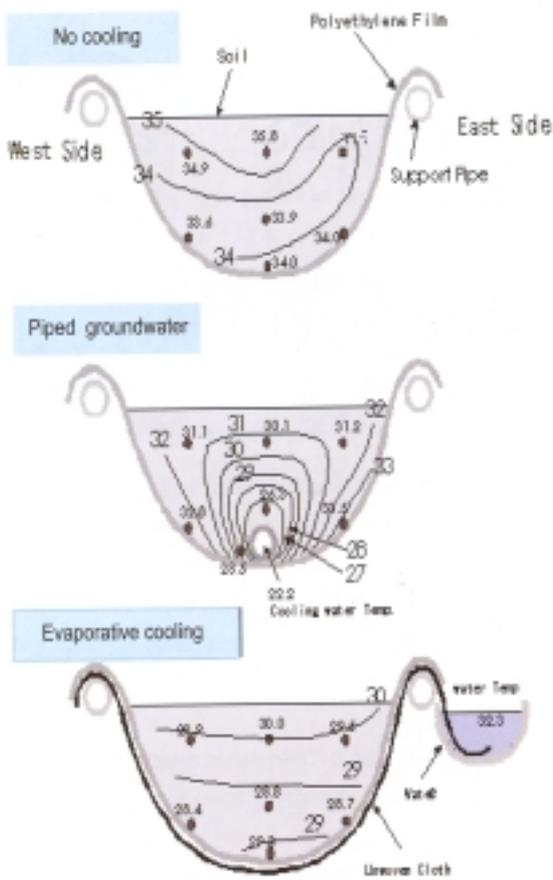
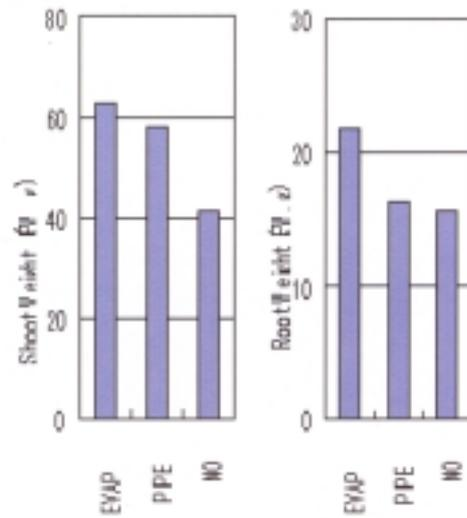

Fig.1. An example of temperature distribution in the soil from two different cooling systems (°C)
Fig. 3. Effect of soil cooling on growth of strawberry (cv. *Toyonaka*) EVAP: Evaporative Cooling, PIPE: Piped Groundwater, NO: No Cooling
The system should be constructed as shown in Fig. 1 and Fig. 2.
- ❑ Iron pipes and polyethylene film are used for the construction of the bench. Both the pipes and the plastic must be strong enough to support an appropriate amount of soil (Fig.1).
- ❑ Unwoven cloth 0.3 mm thick is attached to the underside of the polyethylene film. The cloth is kept wet with water supplied from a water channel (See Fig.1).
- ❑ An open water channel is set to run the length of the bench (Fig.1).
- ❑ This cooling system cools down the soil more evenly than the traditional method of running water in pipes. It is, therefore, more favorable to the growth of the roots and tops than the traditional method (Fig.1 and Fig. 3).